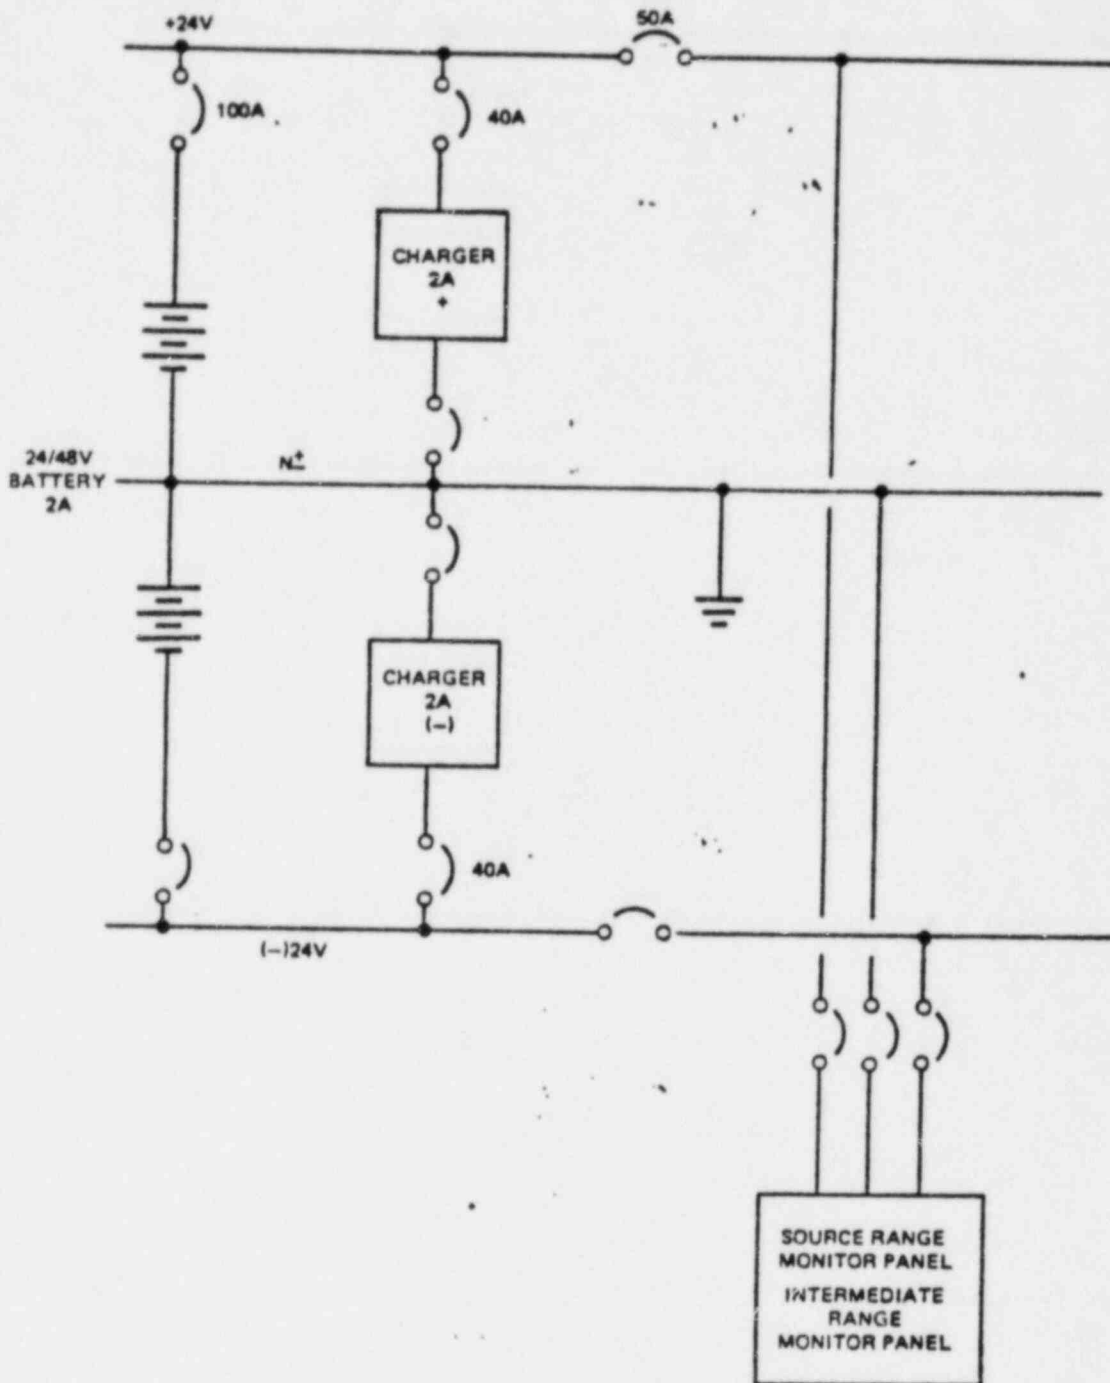

FIGURE 8. 2A 24/48 Vdc NUCLEAR INSTRUMENT SUPPLY SYSTEM
J. 4. 24/48V DC Nuclear Instrument Supply System (Figure 8)